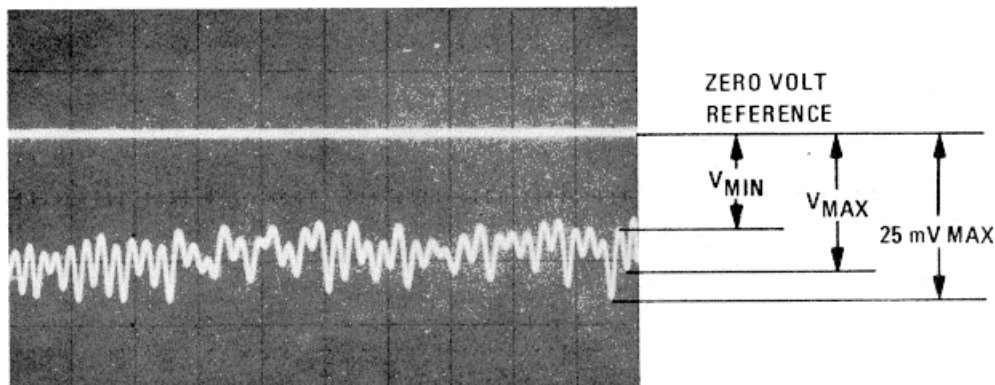

Figure 4-10. Typical Pattern of a swept SWR Measurement
e. Display swept power output trace on oscilloscope (Figure 4-10). Select several points on trace and calculate V_{MAX}/V_{MIN}.
- a. Connect spectrum analyzer as shown in Figure 4-10.